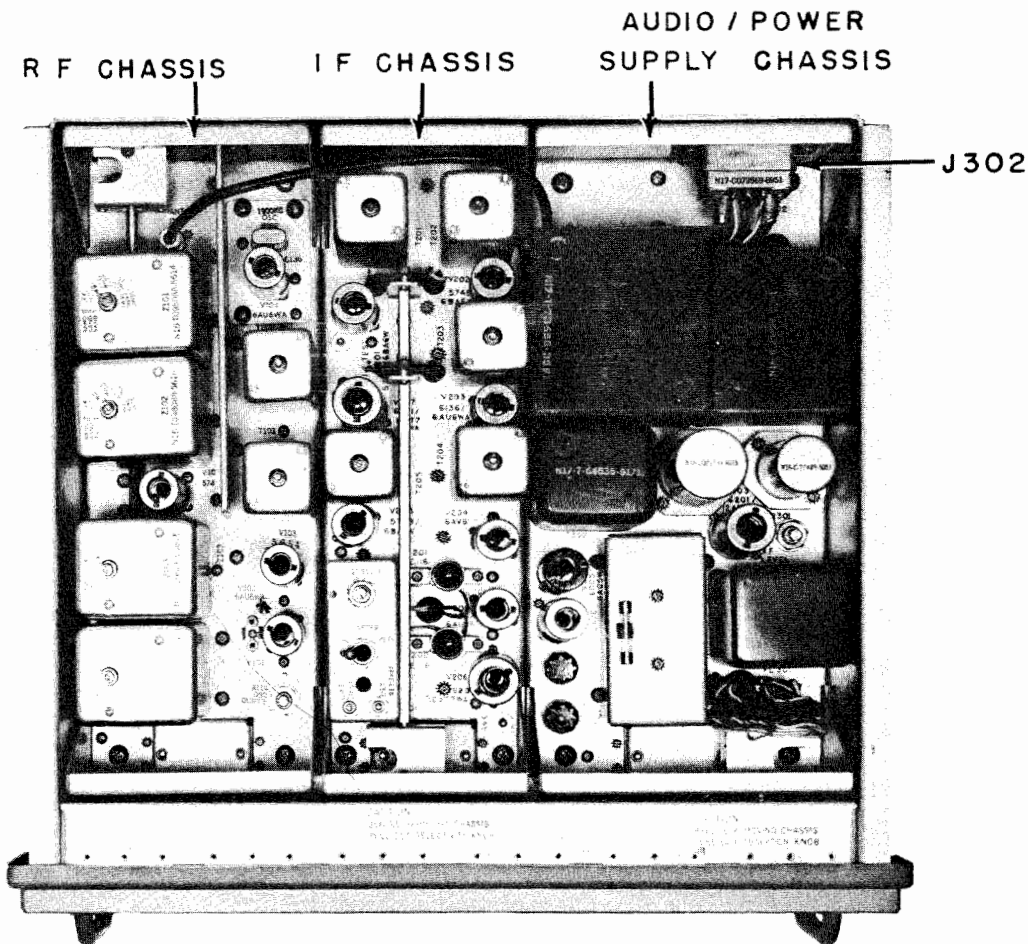

Figure 1-6. Top View of Chassis out of the Case
d. CHASSIS ASSEMBLIES.—These units as indicated in figure 1-6 are completely wired assemblies, designed as plug-in units for quick removal and replacement. End angle brackets, at the front and rear, form handles which facilitate removal and handling. Four mounting stand-offs (one at each corner) with captive screws provide means of fastening the units to the panel-frame assembly. The receptacle connector, located at one end, is covered by a plate to avoid contact with voltage carrying wires. All coils and tubes are shielded except V302 which is held down with a tube clamp.
(1) RF CHASSIS.—This unit, shown in figures 1-6, 2-4 and 2-5, contains the following stages: an RF Amplifier (V101), a Channel Determining Oscillator (V102), the First Mixer (V103), the 2020 Kc IF circuits and the 1900 Kc Oscillator (V104). All coils are contained in individual aluminum cans for isolation and reduction of interaction between different parts of the circuits. The RF can tops have frequency calibrations to aid fre-
(2) IF CHASSIS.—This unit illustrated in figures 1-6, 2-9 and 2-10, contains the second Mixer (V201), two 120 Kc IF Amplifiers (V202, V203), the Detector-
(3) AUDIO/POWER SUPPLY CHASSIS.—This unit is illustrated in figures 1-6, 2-16 and 2-17. A power transformer, a filter choke, and audio transformer and a 1000 cycle filter, all metal cased, are located on the Audio/Power Supply chassis. To the rear of these parts is the connector which mates with that of the rear compartment to provide entrance of all audio, AC power,